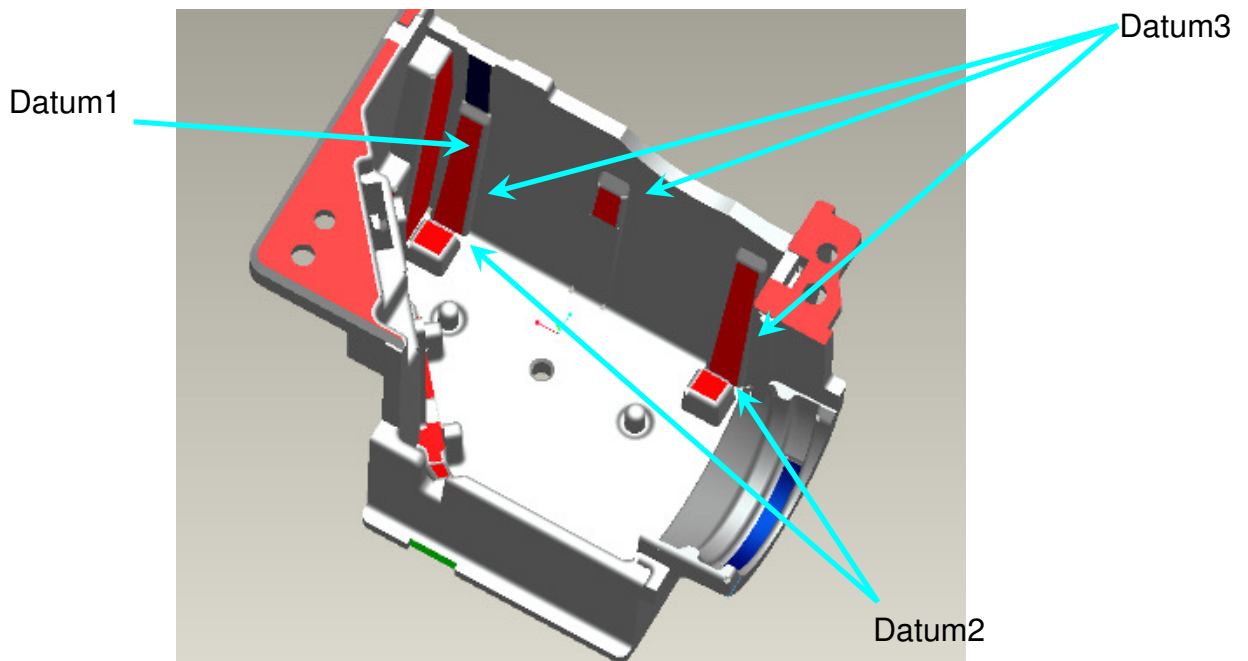

Fig. 3-8
- (3) Assemble CM to Sub HSG and make CM contact Sub HSG datum well (Fig. 3-8).